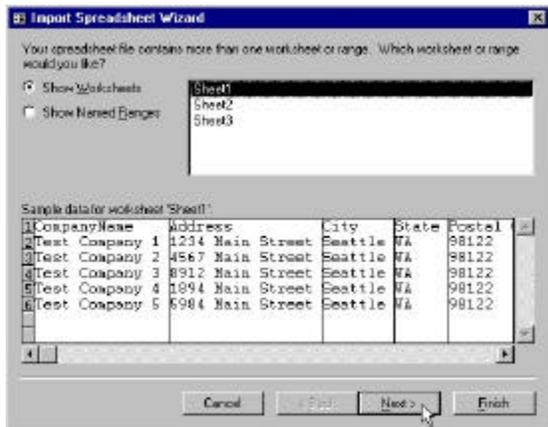

Figure 23: The Microsoft Access Import Wizard.
- (c) When you've found your address data, highlight the file name by clicking it once, then click **Import**. This will bring you into the Access Import Wizard. (See Figure 23.)